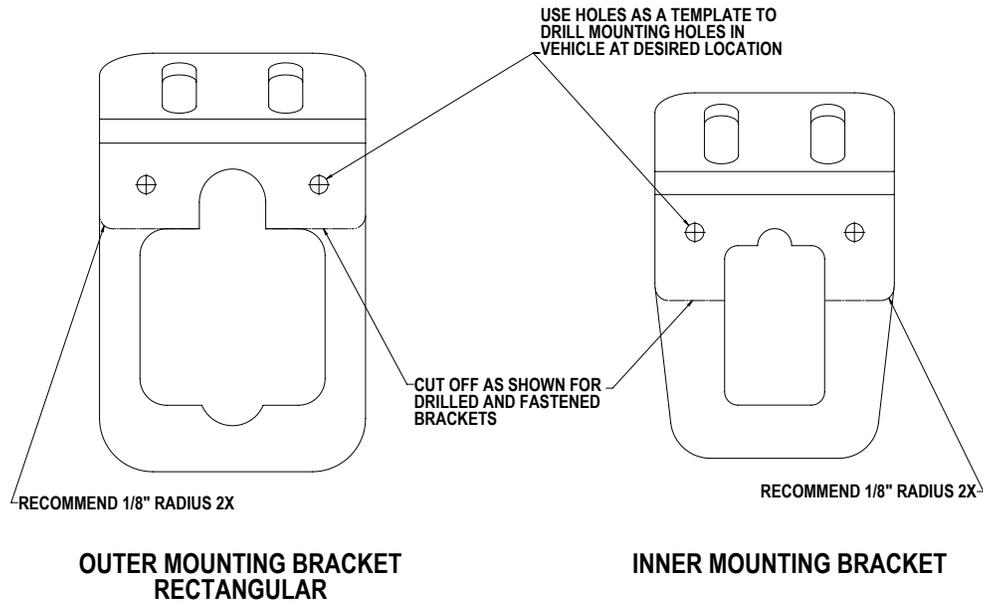

FIGURE 5
Step 1 Remove the vehicle's plastic outer visor pivot brackets to determine which of the (4) Unit's Outer Mounting Bracket sets best fit the vehicle (See Figure-1 on page 5 for the (3) options). The Standard Round Outer Mounting Bracket with the Triangular Washer will be the most commonly used set as the Triangular Washer allows the Round Outer Mounting Bracket to rotate to accomodate extreme angles of rotation for adjustment while allowing the triangular hole in the washer to align with the most common visor pivot bracket. If none of the Universal SuperVisor's Outer Mounting Bracket versions appear to work for your application the Universal SuperVisor's Rectangular Outer Mounting Brackets may be cut off as shown in Figure 5 on page 7. The brackets may then be used as a template to drill (2) 9/64" .140" diameter mounting holes directly through the fabric of the headliner and through the vehicle's sheet metal above the headliner so that the brackets can be mounted directly to the vehicle's headliner using the supplied #8 X 1" Black Phillips Truss Head Sheet Metal Screws. **Caution: Before doing any drilling in the vehicle, refer to the vehicle's service manual to pull the fabric headliner down slightly and observe the locations of any wiring or sensing devices to avoid doing damage to them!!! Also be very careful not to drill through the vehicle's roof.** If none of the bracket options are appropriate to the vehicle you are installing the Unit in, it may be necessary to make your own mounting brackets.
Step 2 Remove the vehicle's plastic inner visor clips. In a majority of vehicles the plastic inner visor clips will fit in the rectangular hole in the Unit's Inner Mounting Brackets but the Inner Mounting Brackets may require some modification with a file or other cutting tool to clear the shapes in the vehicle's plastic visor clips. For vehicles with smaller inner visor clips you may need to use the Unit's supplied Rectangular Washer in your vehicle application. Make any necessary modifications to the Inner Mounting Brackets to make the vehicle's plastic visor brackets fit in the hole. If the Inner Mounting Brackets do not work, the Inner Mounting Brackets may also be cut off as shown in Figure 5 on page 7 and the brackets can be mounted by using the brackets as a template to drill (2) 9/64" .140" diameter mounting holes directly in the vehicle's headliner and the sheet metal above the headliner fabric so that the brackets can be mounted directly to the vehicle's headliner using the supplied #8 X 1" Black Phillips Truss Head Sheet Metal Screws. **Caution Again: Before doing any drilling in the vehicle, pull the headliner down slightly and observe the locations of any wiring or sensing devices to avoid doing damage to them!!! Again as with the Outer Mounting Brackets, be very careful not to drill through the vehicle's roof.** If none of the bracket options are appropriate to the vehicle you are installing the Unit in, it may be necessary to make your own mounting brackets for your application.